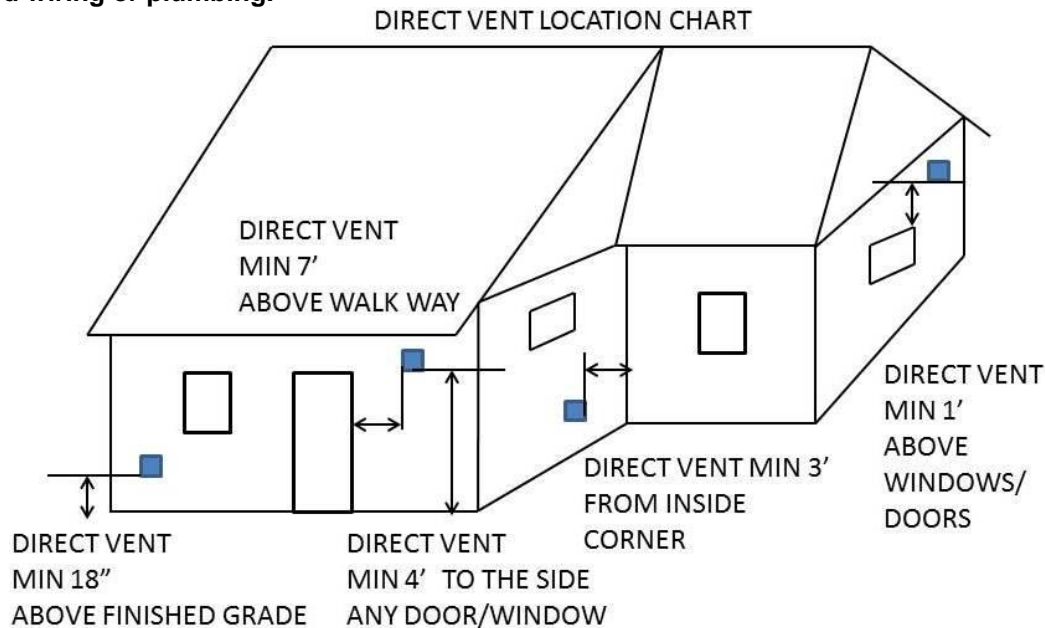

FIGURE 1 Direct Vent Outlet Location Requirements
9. A major factor in determining stove location is based on where the flue pipe will exit, making sure to take into account air circulation and clearance requirements to windows that open and door openings per FIGURE 1. Also plan the venting system layout to avoid the possibility of accidental contact with concealed wiring or plumbing.
12. Place the stove in its final resting place and determine location for flue pipe to exit through the wall. Refer to the Figure 1 and the paragraph "Special Instructions for Direct Vent" for vent pipe installation, adjustment and inspection requirements.